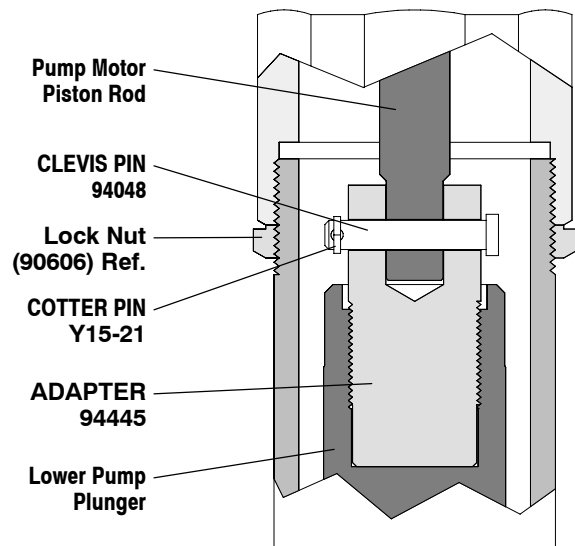

FIGURE 2
1. Loosen (90606) lock nut and unscrew entire pump from the air motor. This will expose (94445) adapter (see figure 2).